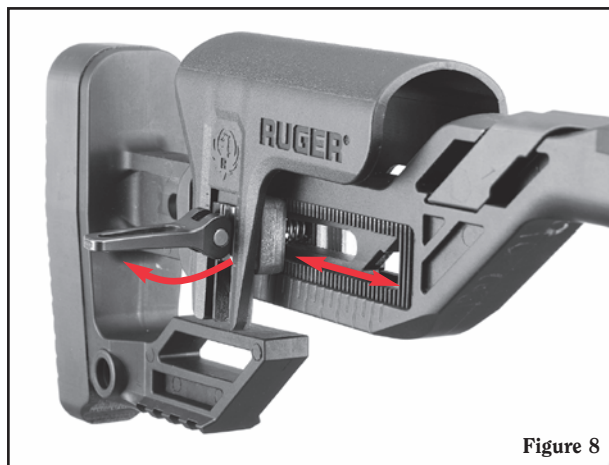

Figure 8
4. Raise the cam lever on the cheek piece (see Figure 8). The entire butt pad assembly can be moved in or out to lengthen or shorten the length of pull (see Figure 8). Note that the butt pad and the cheek piece will move together when the cam lever is released.